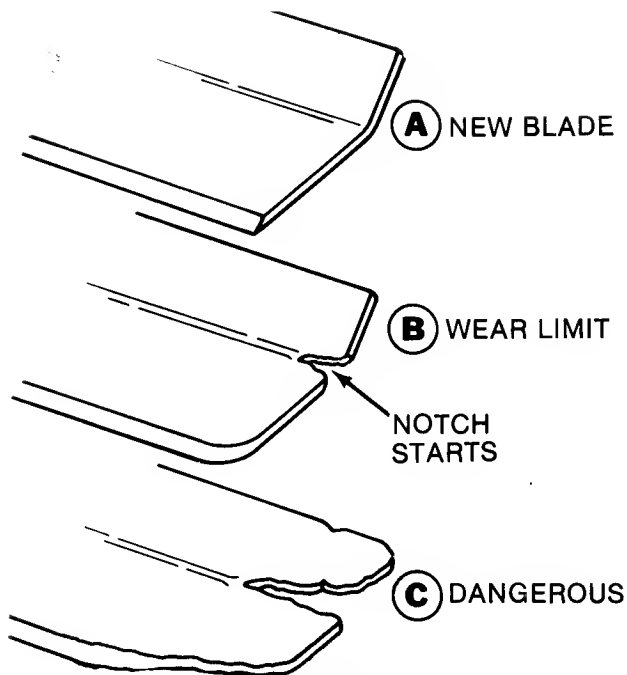

FIG. 12 - BLADE WEAR PATTERNS
**REPLACE** blade if badly chipped, bent, out of balance or as soon as a notch starts wearing in the tip between the flat surface and upturned lift as depicted in View B, Figure 12. This type wear pattern occurs more rapidly under sandy soil conditions. **CAUTION:** Never operate the mower with blade worn to the extent shown in View C as the tip could fly off causing personal injury or property damage.